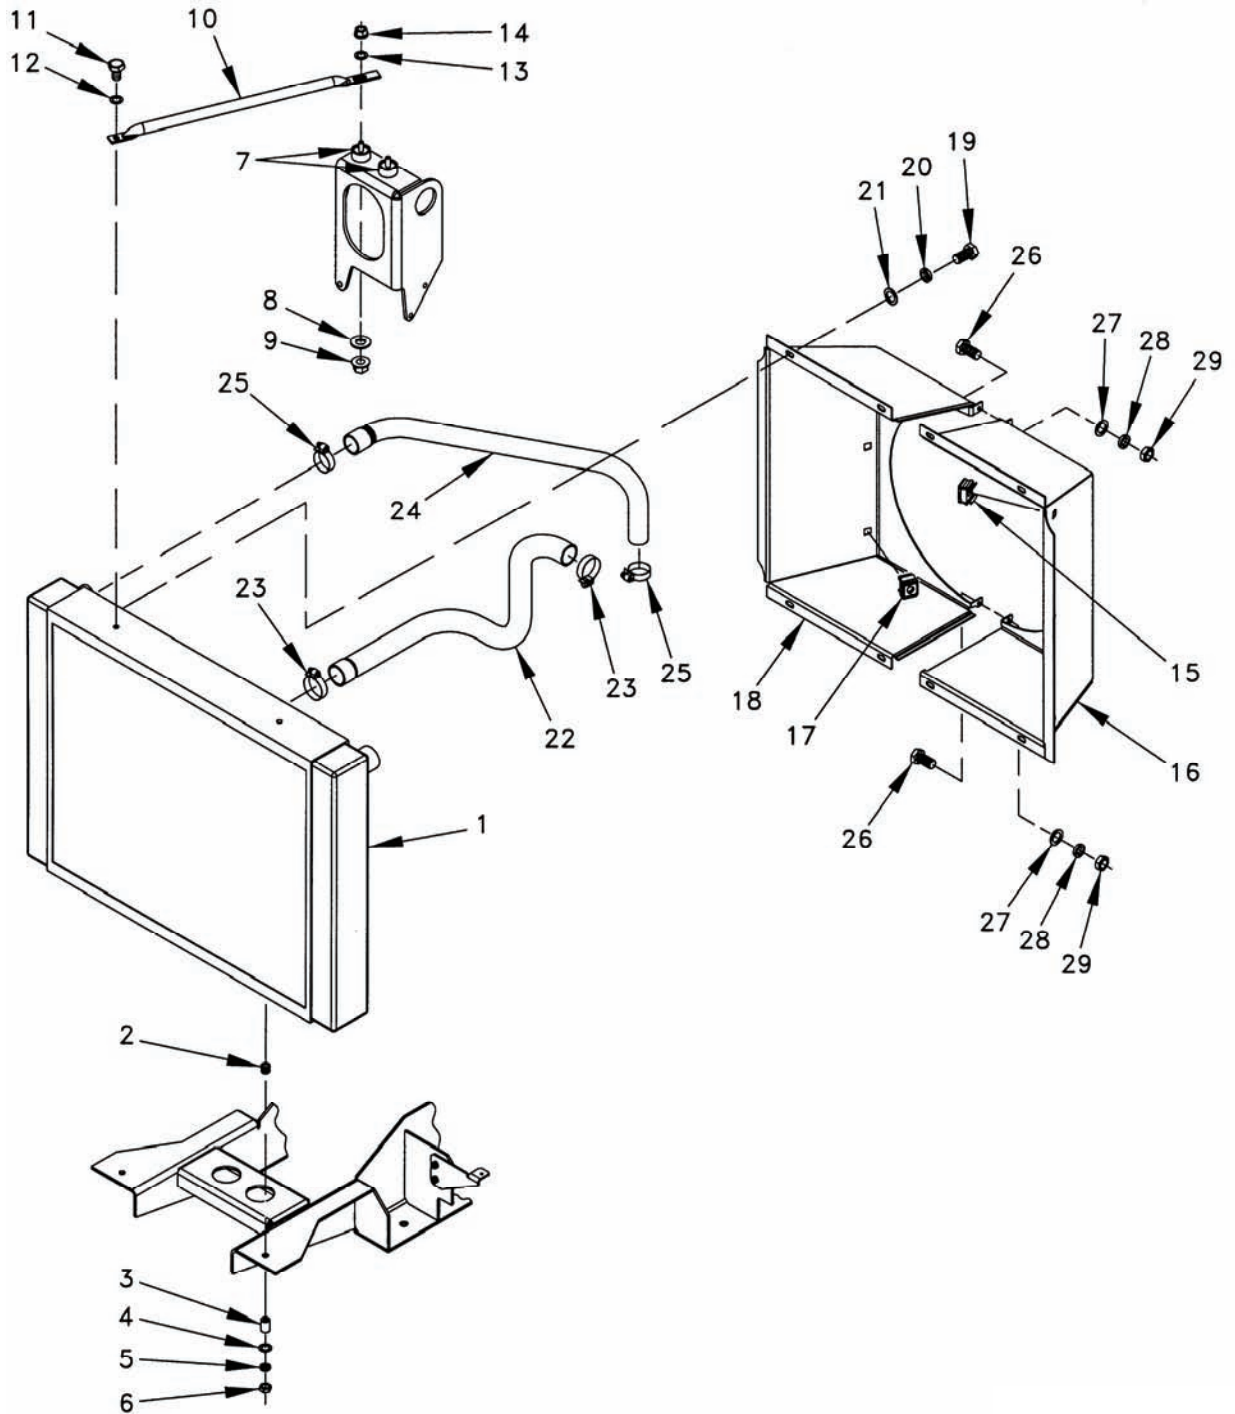

Figure 5-31. Radiator.
- a. Install original radiator (1, Figure 5-31) and two grommets (2) (Item 66, Table 5-1) with two bushings (3) (Item 67, Table 5-1), flat washers (4) (Item 56, Table 5-1), lock washers (5) (Item 65, Table 5-1), and nuts (6) (Item 63, Table 5-1).
- b. Install two radiator mounts (7) (Item 34, Table 5-1) using two flat washers (8) (Item 76, Table 5-1) and nuts (9) (Item 77, Table 5-1).
- c. Install two radiator tie rods (10) (Item 31, Table 5-1) using two screws (11) (Item 64, Table 5-1), lock washers (12) (Item 65, Table 5-1), flat washers (13) (Item 76, Table 5-1), and nuts (14) (Item 77, Table 5-1).
- d. Install three cage nuts (15) (Item 35, Table 5-1) to left fan shroud (16) (Item 30 Table 5-1).
- e. Install three cage nuts (17) (Item 35, Table 5-1) to right fan shroud (18) (Item 29, Table 5-1).
- f. Install left fan shroud (16) and right fan shroud (18) using eight screws (19) (Item 62, Table 5-1), lock washers (20) (Item 58, Table 5-1), and flat washers (21) (Item 59, Table 5-1).
- g. Install lower radiator hose (22) (Item 32, Table 5-1). Secure with two hose clamps (23) (Item 41, Table 5-1).
- h. Install upper radiator hose (24) (Item 33, Table 5-1). Secure with two hose clamps (25) (Item 41, Table 5-1).
- i. Install two screws (26) (Item 62, Table 5-1), flat washers (27) (Item 59, Table 5-1), lock washers (28) (Item 58, Table 5-1), and nuts (29) (Item 61, Table 5-1) to top and bottom of fan guard.